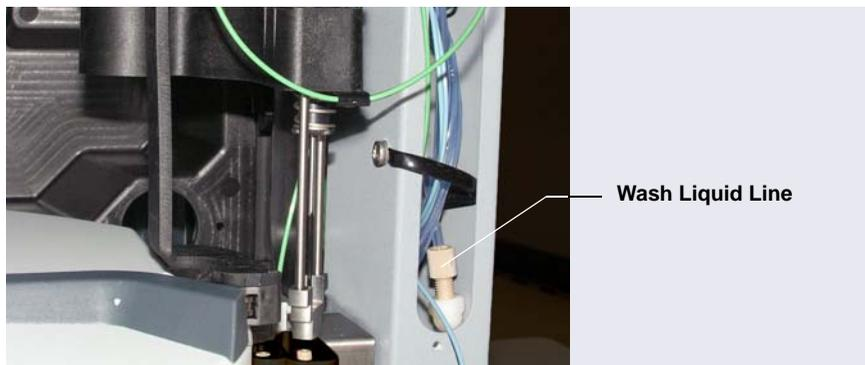
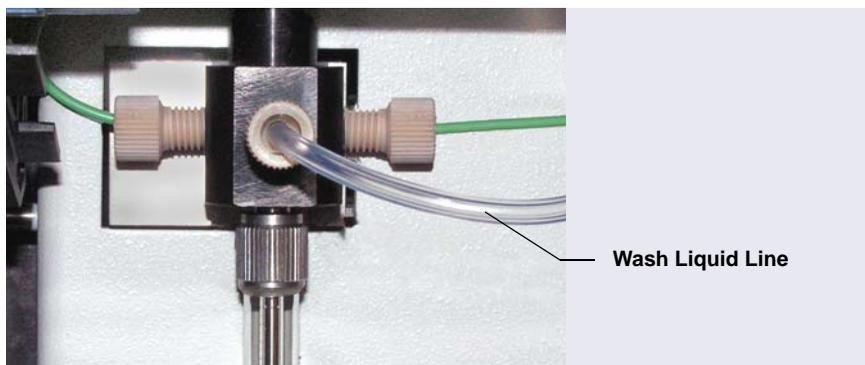

Figure B-14. Wash Liquid Line on Right Side of Autosampler
Figure B-15. Syringe Valve Connections
5. Locate the wash liquid line that extends out of the slot on the right side of the autosampler (see Figure B-14). This line is connected to the center port on the syringe valve (see Figure B-15). Route the line to the reservoir and connect it to the union on the line from the reservoir cap.
2. In the Dionex AS-AP, locate the wash liquid line that extends out of the slot on the right side of the autosampler (see Figure B-14). This line is
connected to the center port on the syringe valve (see Figure B-15). Route the wash liquid line to the pump and connect it to the degas outlet port.
5. Locate the wash liquid line that extends out of the slot on the right side of the autosampler (see Figure B-14). This line is connected to the center port on the syringe valve (see Figure B-15). Connect the line to the remaining port on the tee.